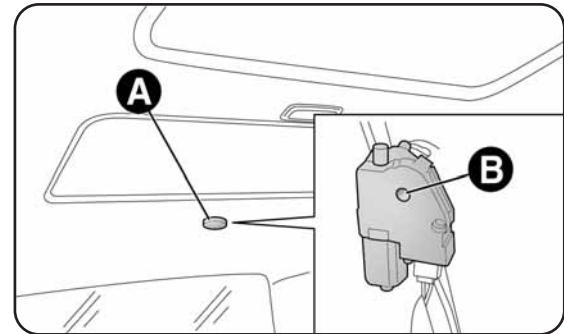

fig. 50
- remove protective cap A-fig. 50 on the rear part of the internal cover;